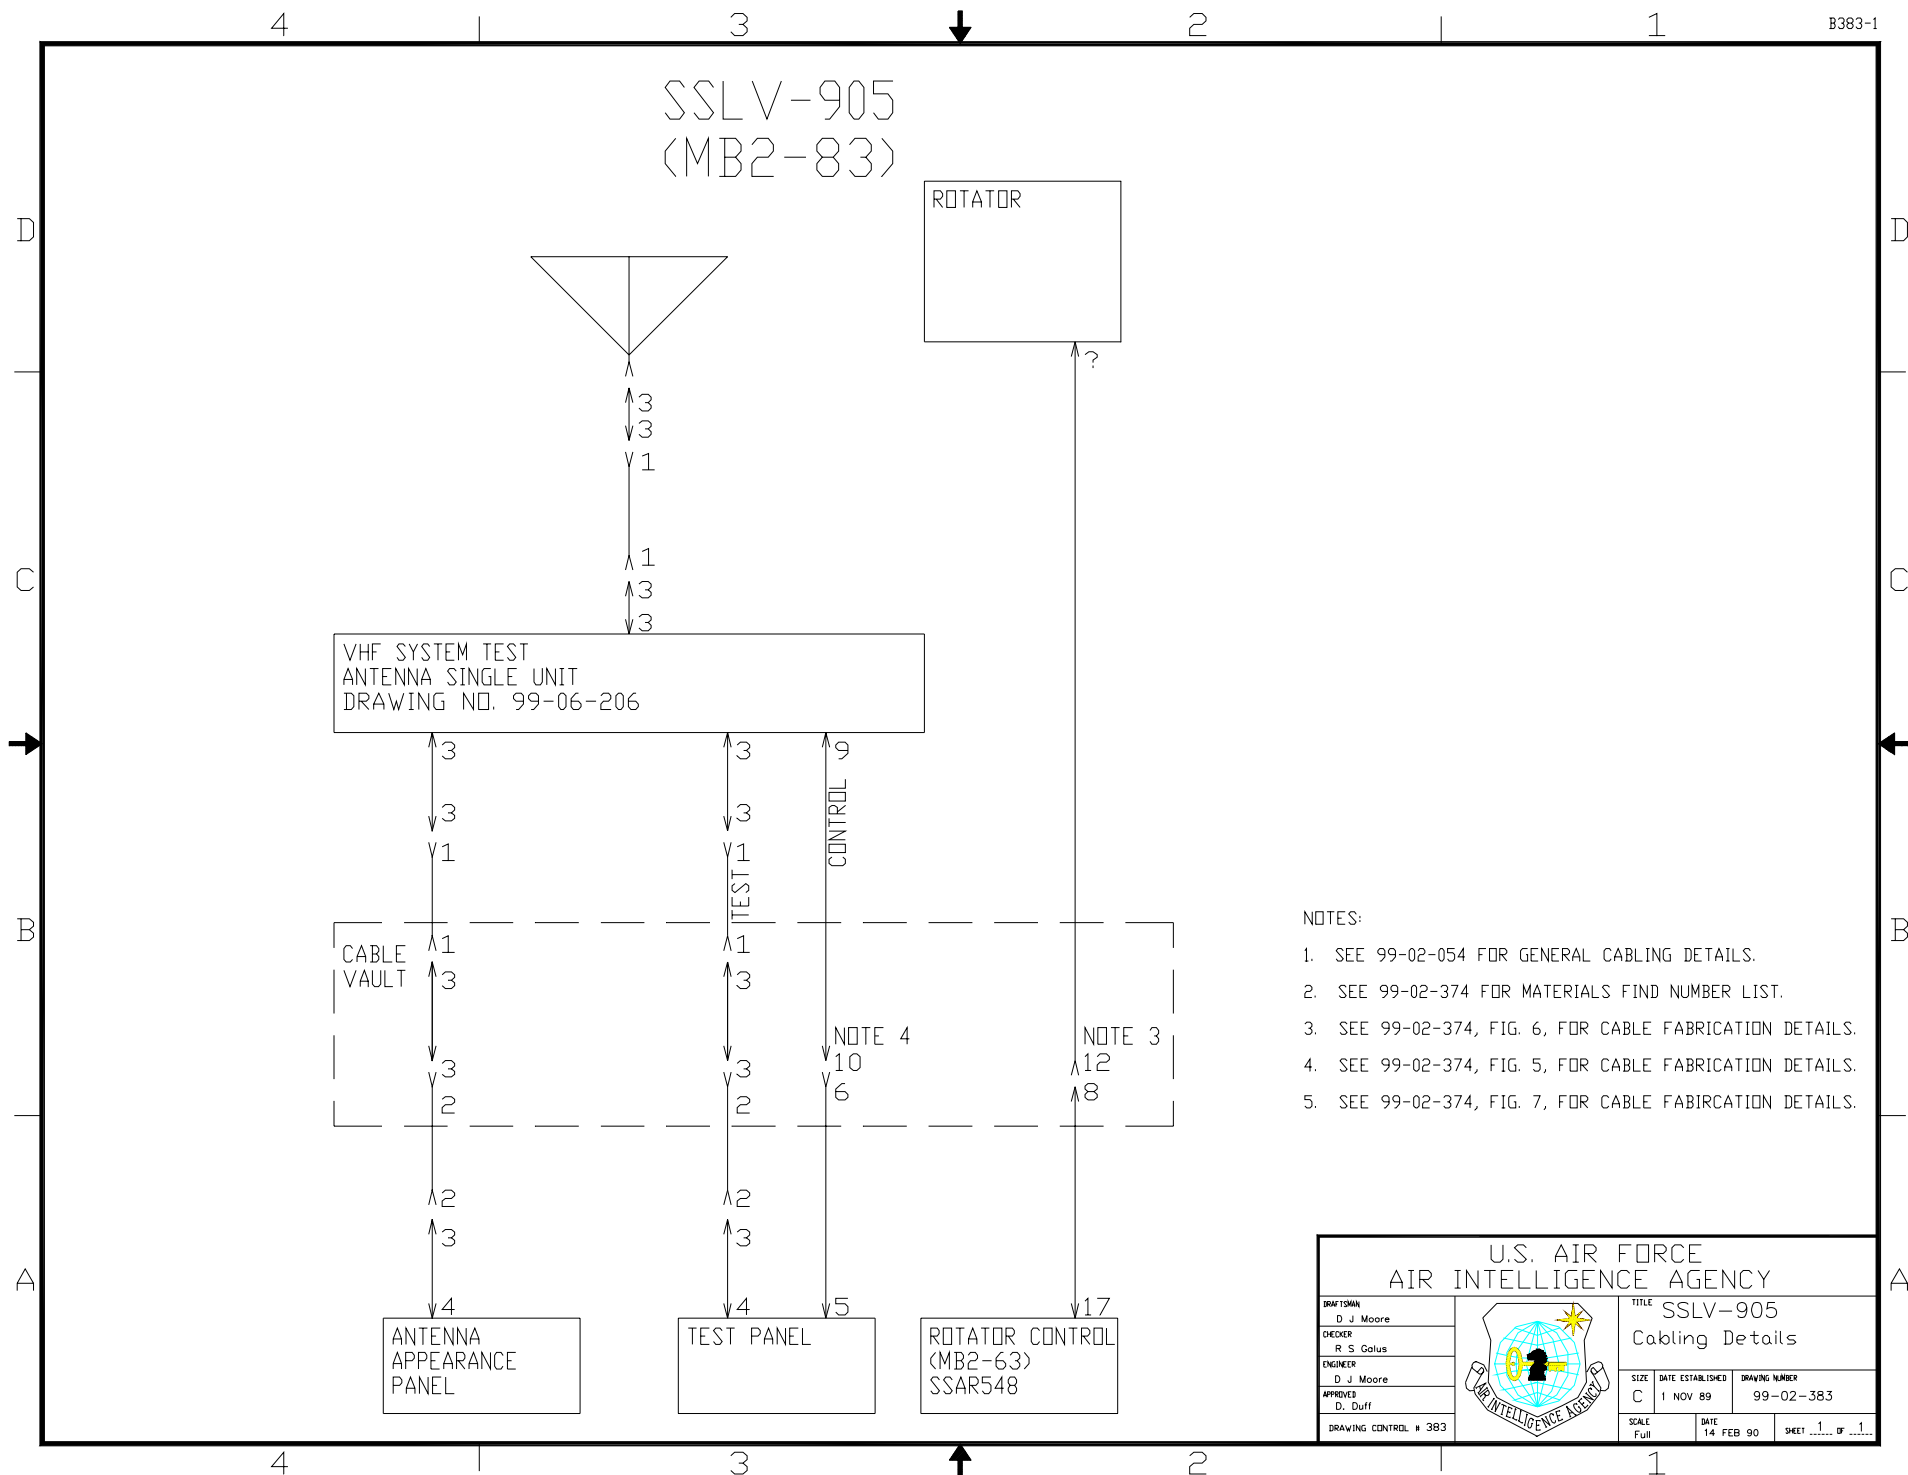

FIGURE 1
- FIG 1 REPRESENTS TYPICAL GROUND GRID AND CABINET ANCHORING TO REAL FLOOR BELOW THE RAISED FLOOR. SEE THE FOLLOWING SHEETS FOR DETAILS AND MATERIALS.